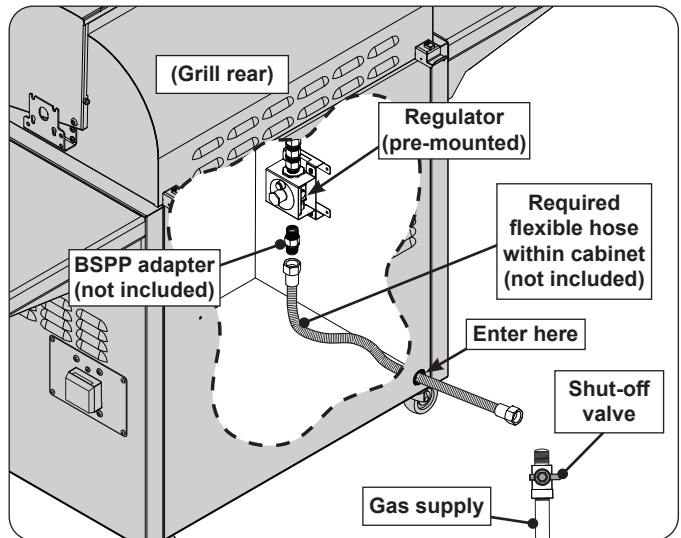

Fig. 20-1 Gas connection diagram
2. Run the gas supply into the grill cabinet through the rear opening and route to the regulator (1/2" BSPP female). The regulator is pre-mounted to the left side wall, inside the grill cabinet. See Fig. 20-1.